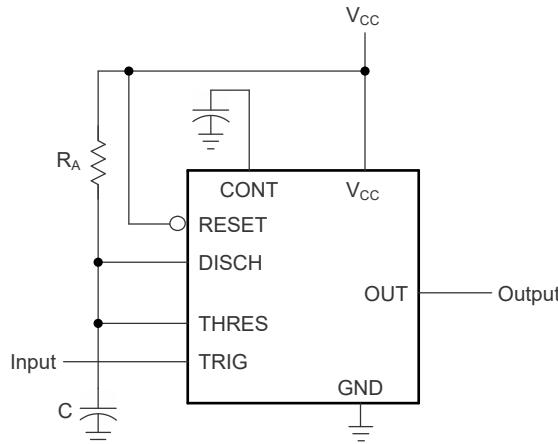
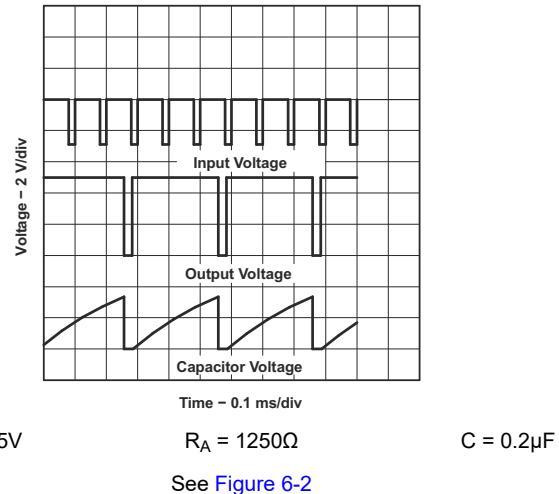

Figure 6-2. Circuit for Monostable Operation
Figure 6-8. Divide-by-Three Circuit Waveforms
(1) For conditions shown as MIN or MAX, use the appropriate value specified under *Recommended Operating Conditions*.
(2) Values specified are for a device in a monostable circuit similar to Figure 6-2, with the following component values: R_A = 2kΩ to 100kΩ, C = 0.1μF.
For monostable operation, Figure 6-2 shows how to connect any of these timers. If the output is low, application of a negative-going pulse to the trigger (TRIG) sets the flip-flop (\bar{Q} goes low), drives the output high, and turns off Q1. Capacitor C is then charged through R_A until the voltage across the capacitor reaches the threshold voltage of the threshold (THRES) input. If TRIG has returned to a high level, the output of the threshold comparator resets the flip-flop (\bar{Q} goes high), drives the output low, and discharges C through Q1.
Figure 6-5 shows that adding a second resistor, R_B , to the circuit of Figure 6-2 and connecting the trigger input to the threshold input causes the timer to self-trigger and run as a multivibrator. Capacitor C charges through R_A and R_B and then discharges through R_B only. Therefore, the duty cycle is controlled by the values of R_A and R_B .
By adjusting the length of the timing cycle, the basic circuit of Figure 6-2 can be made to operate as a frequency divider. Figure 6-8 shows a divide-by-three circuit that makes use of the fact that retriggering cannot occur during the timing cycle.